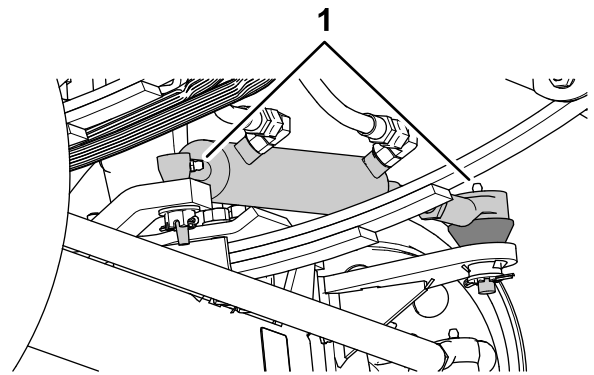
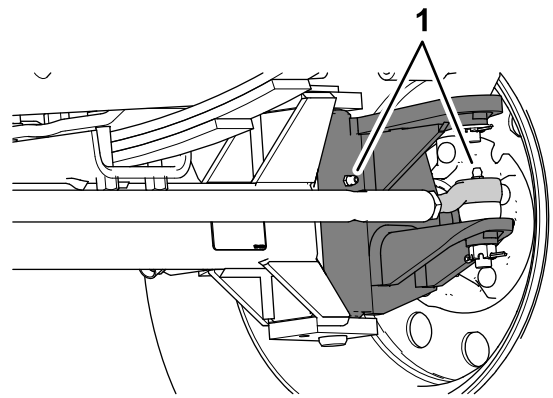

Figure 62
Figure 63
1. Wipe the grease fittings clean (Figure 62 and Figure 63).
2. Pump grease into the grease fittings (Figure 62 and Figure 63).
Note: The grease fittings positions are illustrated in Figure 62.